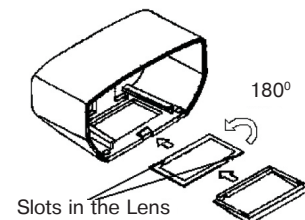

Figure 5
- pull out the lens, turn it through 180° (See Figure 5), install the Detector cover in such a way as to the single recess should be directed inside the case and the lens smooth side should be directed outside;